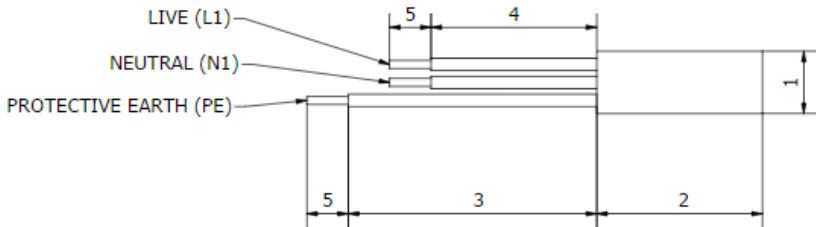

Figure 10: Wire length preparation diagram
- The mains power cable to the Sunamp Controller should be a minimum of 2.5mm², 3 core HO5 VV-F sheathed cable, to BS 6500. This cable must be prepared according to Figure 10 (below), were the Green/ Yellow (Protective Earth) cable is 15 mm than the Brown (Live) and Blue/Grey (Neutral).
- Prepare if necessary and wire the mains power cable in the following terminals (Figure 10):